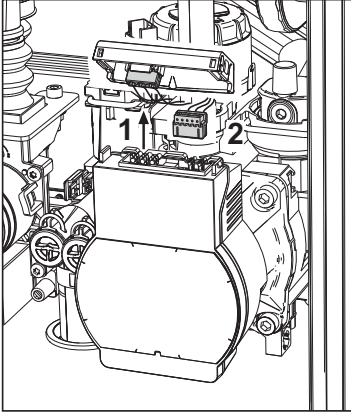

fig. 31
- Electrically disconnect the circulating pump, releasing the connections by raising detail “1” of fig. 31.